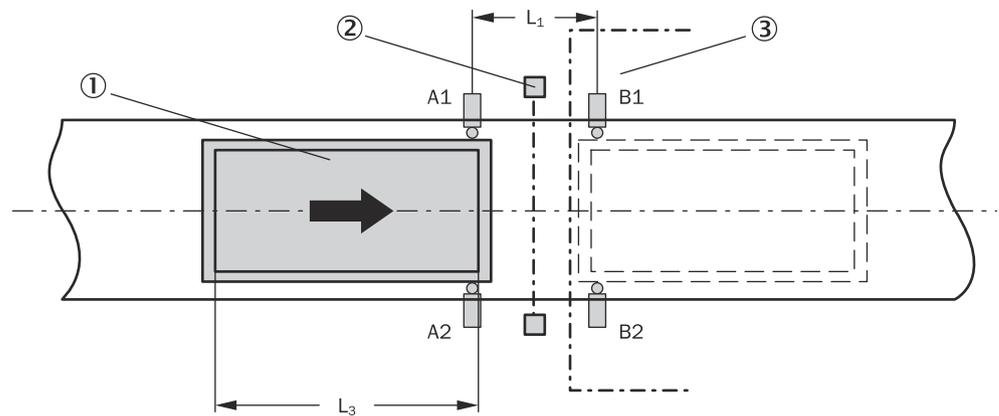

Figure 12: Example for parallel muting
- With parallel muting – between the electro-sensitive protective device and sensors A1 / A2 as well as between the electro-sensitive protective device and sensors B1 / B2 (see figure 12, page 24).